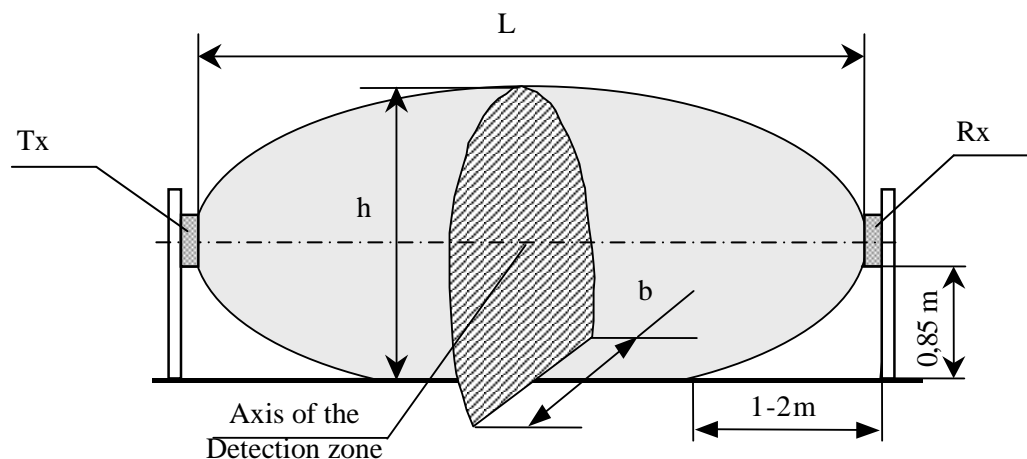

Fig.3.1.
3.2. The configuration and the dimensions of the detection zone are given in fig.3.1. and table 3.1.
In fig.3.1 and table 3.1 the height (h) and the width (b) of the detection zone are given for the middle of the sector. Moving towards the receiver or transmitter these dimensions decrease evenly, given the geometry of positioning the receiver and transmitter.
The principle of the detector operation is to generate an electromagnetic field in the space between a transmitter and a receiver. This field provides a volumetric detection zone in the form of a long ellipsoid of rotation (see fig.3.1.). An intruder crossing a detection zone causes changes of the field. All changes of this field are recorded. There is the detection zone configuration in fig.3.1, there are given in table 3.1 its crosscuts dimensions for three performances of the detector dependency on the length of a sector with the height 0, 85 m of Rx & Tx mounting.